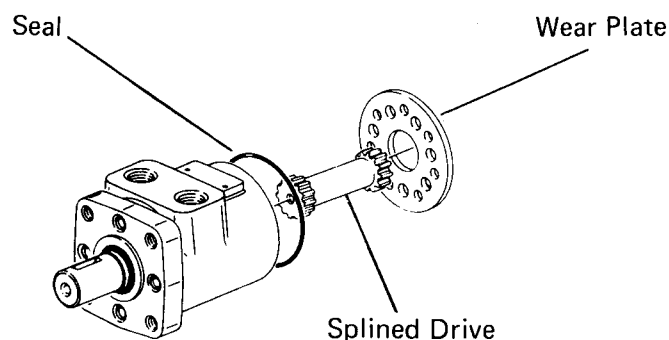

Figure 4
- 8 Remove splined drive, see Fig. 4.